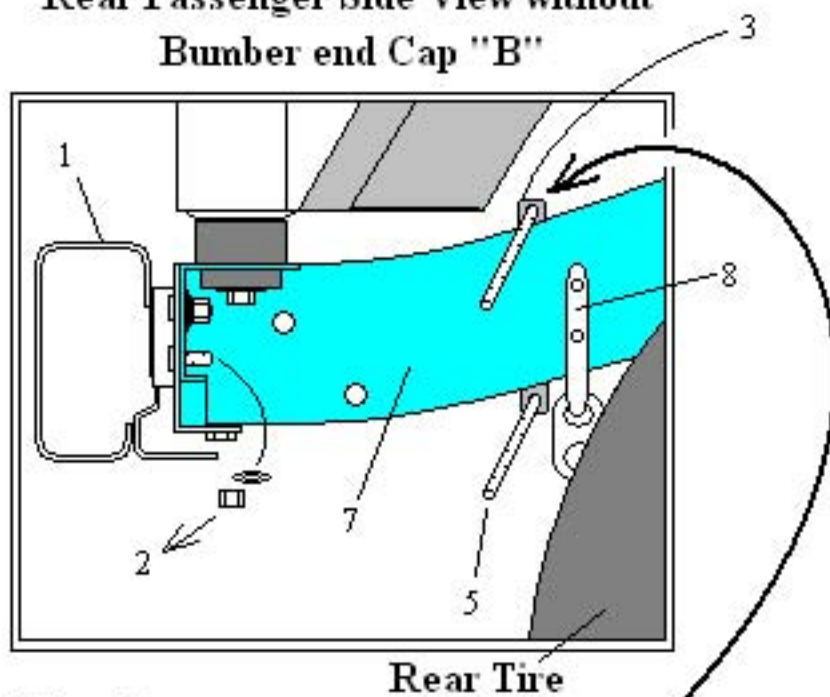

Fig. 2
- 4- Refer to page 3 Fig. 2 remove only the lower nut and washer (2) from the rear bumper (1) as shown. Then remove from your hardware kit one clamp plate (3) and two 4" long stainless steel carriage bolts(5). Thread the 4" long carriage bolts(5) through clamp plate (3) then slide them as a unit behind the passenger side rear body frame (7) as shown in Fig 2 page 3. Keep the clamp plate assembly on the left side or rear of the exhaust tail pipe support hook (8).
- 5- Refer to page 3 Fig. 3 and remove from your hardware kit "Passenger Side" Frame Extension (4). Slide Frame Extension (4) onto exposed rear bumper bolt (2) then slip Frame Extension over both 4" carriage bolts. Thread nut and washer recently removed from bolt (2) of rear bumper (1) back in place over Frame Extension (4) then continue by threading a 3/8" hard washer and 3/8" Nylok nut onto the two 4" carriage bolts holding the Frame Extension(4) in place. Snug down only at this time. Refer back to Fig 2 and tighten nut(2) of rear bumper (1) then continue to Fig. 3 and tighten both nuts and washers(6).